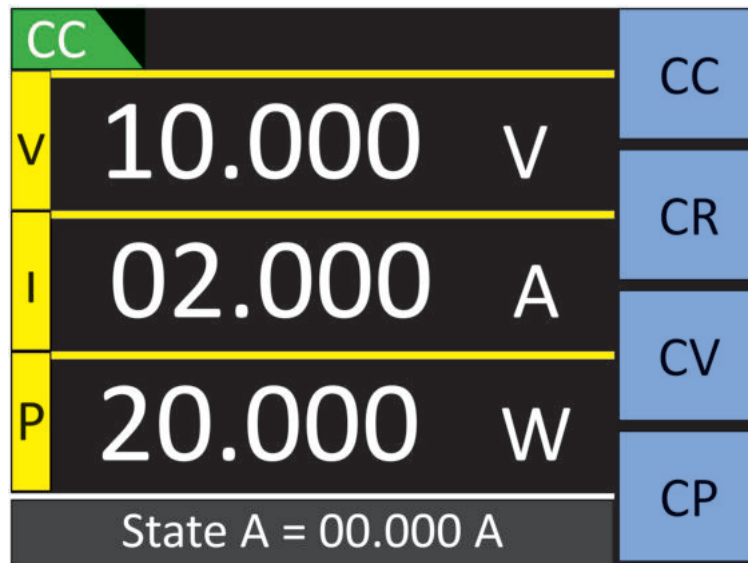

Figure 3.1 Static Mode Menu
The Static Mode encompasses the four primary operational functions of the DC electronic load: Constant Current (CC), Constant Voltage (CV), Constant Resistance (CR), and Constant Power (CW). Upon entering Static Mode, the desired function is selected by activating its corresponding softkey. Consequently, the parameters presented within the "Load Settings" tab will adjust dynamically to align with the chosen operational mode. (Refer to **Figure 3.1** for a visual representation of Static Mode).